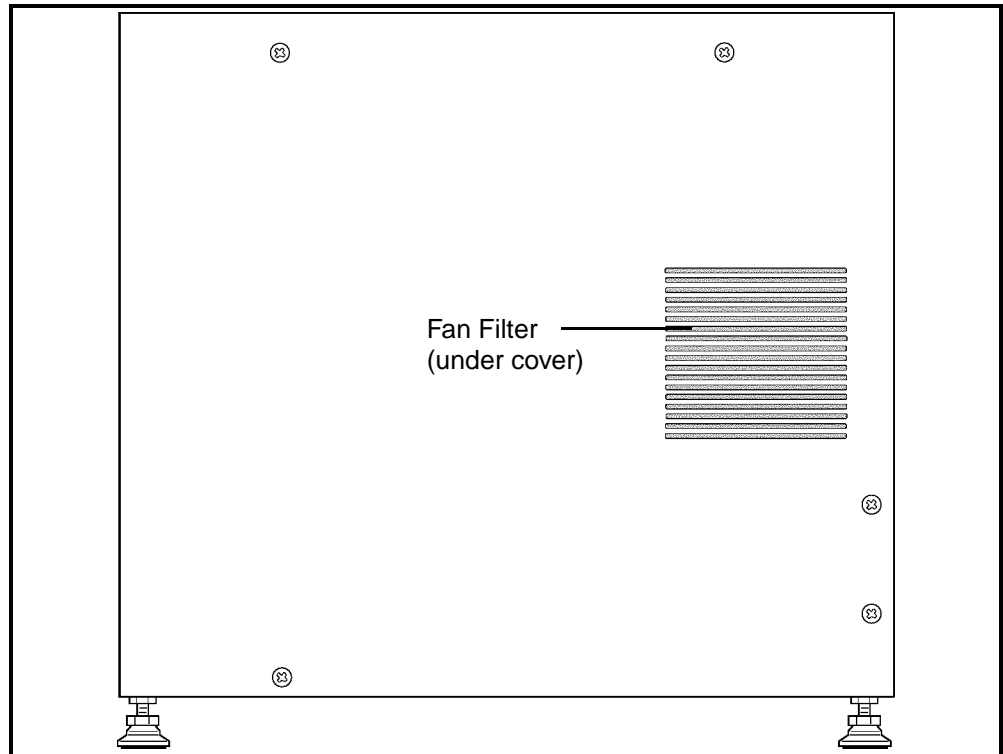

Figure 9.8: Analyzer Left Side Panel
5. To gain access to the Fan Filter on the left side, the Left Side Panel must first be removed. Using the Phillips-head screwdriver, unscrew the two upper and two lower screws holding the Left Side Panel to the frame and remove the panel. (Refer to Figure 9.8.) Snap off the plastic frame which holds the filter in the mounting bracket.